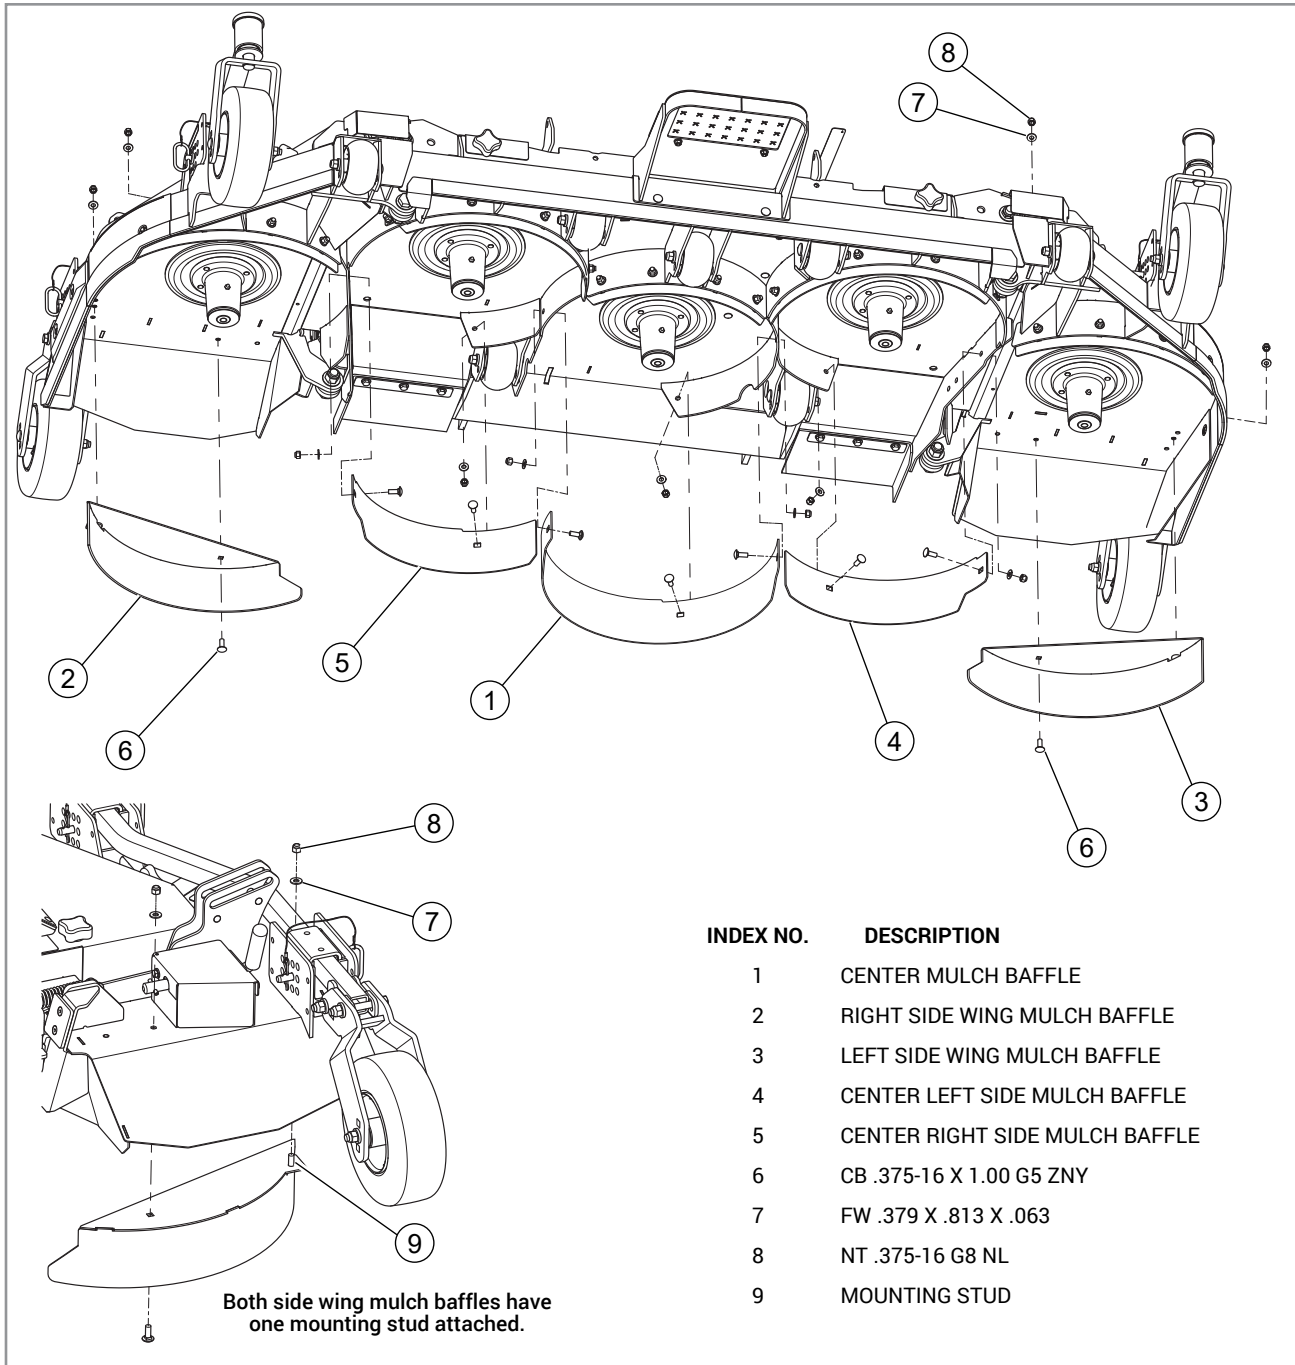

FIG. 3
9. Install the mulch baffles with the provided hardware as shown. FIG. 3